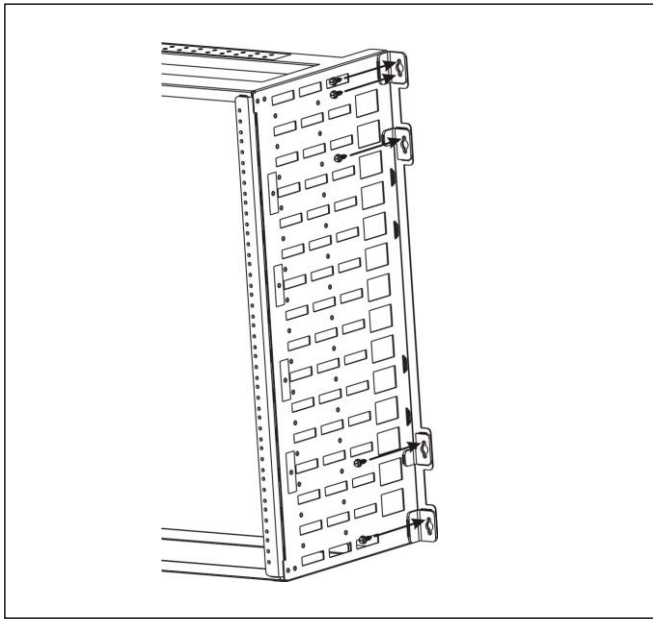

Figure 6. Mounting screw locations
- ① Verify the drill template with the WR-15U and mark up as needed before proceeding. Exposure to humidity and temperature variations may impact the paper size and accuracy of the template.
- ② Select an appropriate location on a wall or backboard to install the mounting frame. Choose a mounting surface and hardware that can support the combined weight of the mounting assembly and equipment that is to be installed. Mounting to a 3/4" thick backboard with #12 x 1" screws is recommended. Maximum weight holding capacity of the WR-15U is 200 lbs.
- ③ Determine the desired orientation of the ground lugs. The symmetrical design of the WR-15U frame allows it to be installed with the grounding holes facing upward or downward.
- ④ Tape the drill template to the wall ensuring it is level. The drill template provides information for multiple wall mounted racks. Be sure to use the hole symbol . Drill ten (10) 3/16" pilot holes. These holes mate with the mounting brackets located at the rear of the frame. The frame will be fastened with two screws in the topmost bracket on each side and one screw in each of the other brackets, as shown in Figure 6.